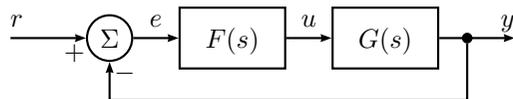

Figure 6.2a
- 6.2 Assume that we have constructed a controller  $F(s)$  for the model  $G(s)$ , see Figure 6.2a, such that there is no steady state error when the reference signal is a step. Let the real system be given by
and assume that  $G^0(s) \rightarrow 0$ ,  $s \rightarrow \infty$ . Also assume that the amplitude curve of the closed loop system has no resonance peaks and decreases, at least and asymptotically, with 20 dB20/decade for frequencies over the bandwidth. What is the highest possible bandwidth we can use for the closed loop system in Figure 6.2a, while at the same time guaranteeing stability?